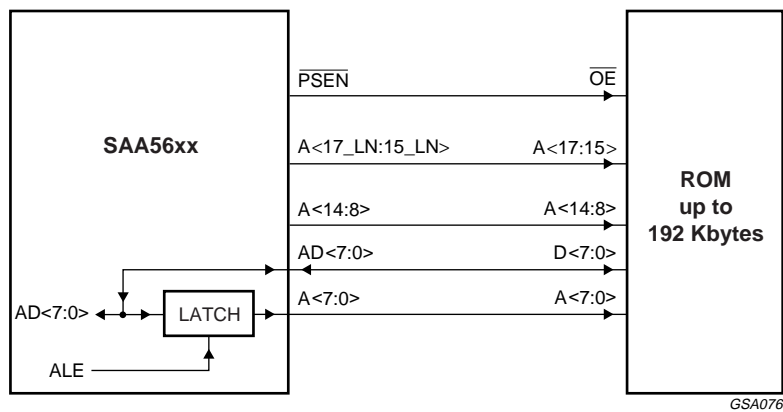

Fig.13 External ROM configuration.
**External program ROM (pin  $\overline{EA}$  tied LOW):** the internal microcontroller logic makes it possible to only address 192 bytes of external program ROM with linear addressing. Figure 13 shows the interface connections.